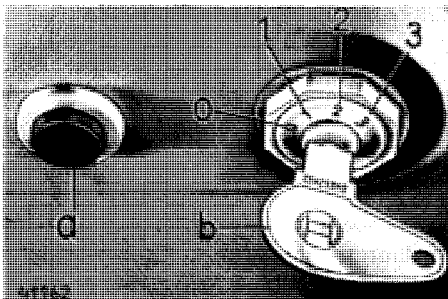

Fig. 8: a) Starter button
- Position 0. Fig. 8 Connects all circuits for daylight operation (without lights).
3. In position 0 (fig. 8) the red warning light for the dynamo lights up and also the green warning light indicating the oil pressure (if bulbs or fuses have burnt out they should be replaced immediately).
4. In position 0 (fig. 8) the fuel gauge shows the level of fuel in the tank, and the thermometer shows the cooling water temperature.
8. With the switch key in the 0 position (fig. 8) push the starter button. The switch key should be set at 0 to avoid over-draining the batteries by switching on any other units which use electricity.
To stop the engine first move the hand throttle lever to idling speed and then pull out the engine stop knob (fig. 12) and hold it until the engine has stopped. Push the knob in. If equipped with lockable stop knob turn the knob in pulled out position 1/4 turn to the right to prevent unauthorized starting of engine. When stopping the engine during the day the tractor key should be in "O" position, but at night, on the open road, in Position "1". The key should be withdrawn so as to leave the parking lights "on" (fig. 8).
reached approximate operating temperatures, the thermostat opens and allows the cooling water to flow through the radiator. When the tractor key is in position the electric temperature gauge shows the temperature of the cooling water (Fig. 8).